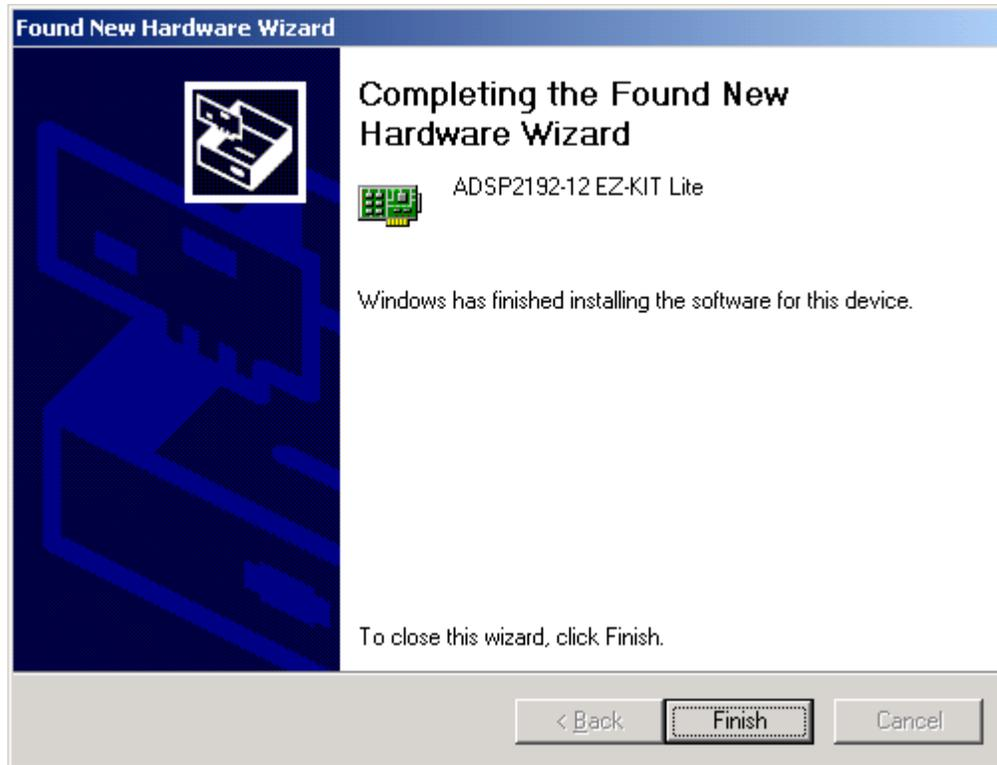

Figure 2-12: The driver has been successfully installed.
6. The wizard will complete the driver installation as shown in figure 2-12. Click **Finish** to exit the wizard.